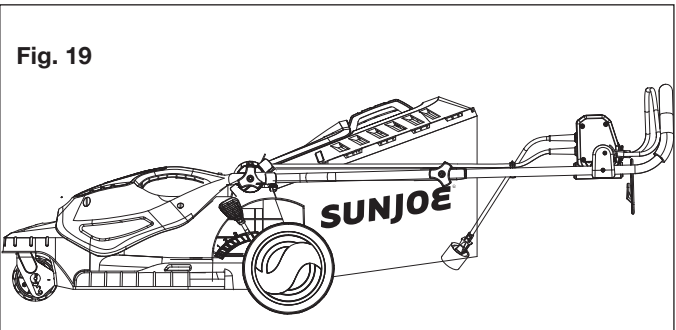

Fig. 19
- ii) Flip the handle assembly to the back until the first arrow on the gear lines up with the hanging position indicator. Make sure the gear snaps in (Fig. 19).